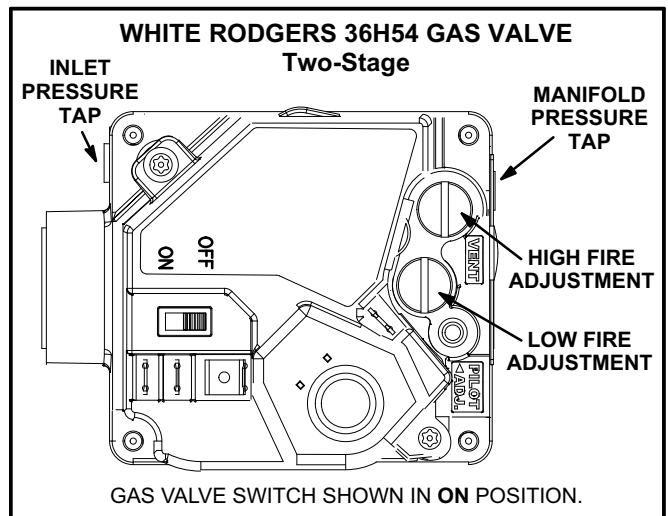
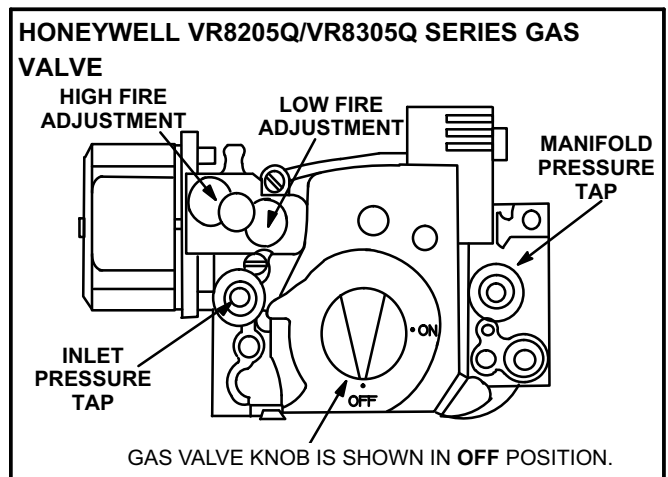

FIGURE 20
FIGURE 21
Gas Valve Operation for Honeywell VR8205Q/VR8305Q and White Rodgers 36H54 (figure 20 and 21)
- 5- Turn gas valve switch to **OFF**. See figure 20. On Honeywell VR8305Q gas valves, turn the knob on the gas valve clockwise ➡ to “**OFF**”. Do not force. See figure 21.
- 6- Wait five (5) minutes to clear out any gas. If you then smell gas, **STOP!** Immediately call your gas supplier from a neighbor's phone. Follow the gas supplier's instructions. If you do not smell gas, go to the next step.
- 7- Turn gas valve switch to **ON**. See figure 20. On Honeywell VR8305Q gas valves, turn the knob on the gas valve counterclockwise ⬅ to “**ON**”. Do not force. See figure 21.